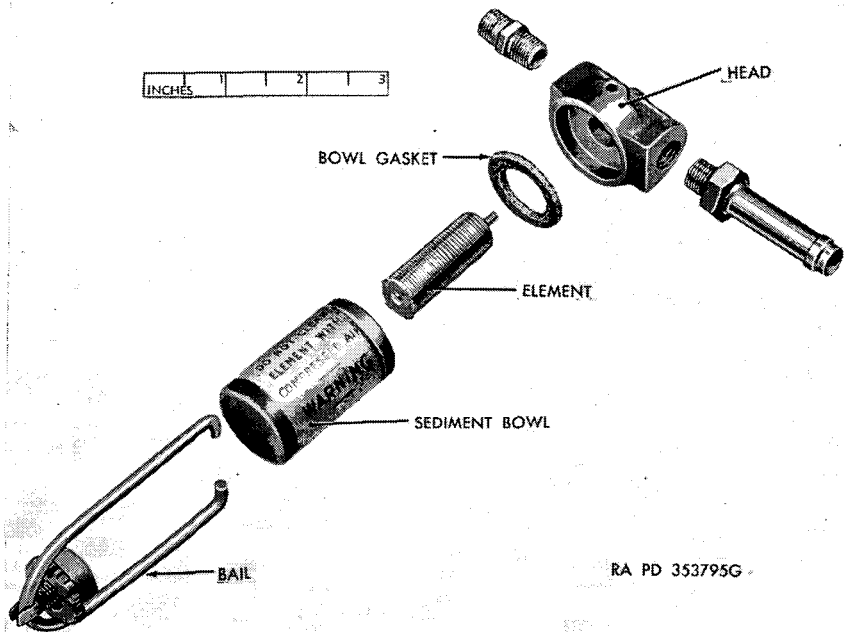

Figure 73. Auxiliary fuel filter—exploded view.
- (e) The carburetors are of dual down-draft design, internally vented, and fitted with dustproofing seals. Each of the dual barrels supplies the fuel mixture to four cylinders through the intake manifolds. Each carburetor is equipped with a small disk-type auxiliary fuel filter, which is mounted in a horizontal position on the carburetor float chamber fuel inlet fitting (fig. 66). This filter will retain the small particles of dirt which may pass through the main filter at the bottom of the fuel tank. The filter has a bowl removable for cleaning (fig. 73).
e. **SERVICING AUXILIARY FUEL FILTER.** Loosen bail nut and remove bowl from filter (fig. 73). Do not try to remove gasket as it may be cemented in place. Wash filter element with dry-cleaning solvent or volatile mineral spirits paint thinner.